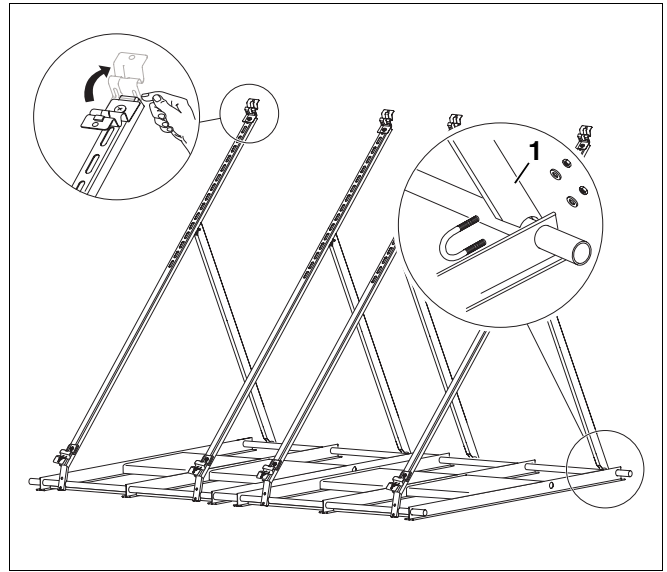

Fig. 23 Assembly of the collector supports
- Position the collector braces (Fig. 23, **Item 1**) onto the round tubes.
- Install the collector holder so that the edge of the collector holder is flush with the channel rail (Fig. 23). Under no circumstances must the collector holders protrude.